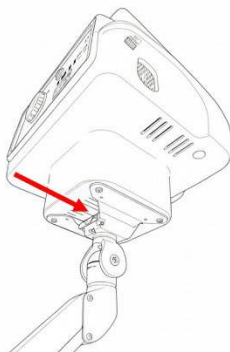

Figure 9 - VESA fitting
3. **Fasten the device to the arm.** On the bottom of the device there is a fitting. To attach the device to the holder, slide the fitting onto the VESA connector until you hear a “click”, indicating that the device is securely attached (see Figure 9).